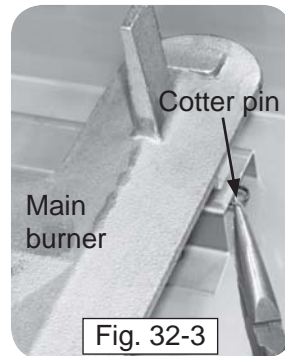

Fig. 32-3
3. Remove the cotter pin from the left or right rear burner anchoring peg by pulling it straight out of the cotter pin hole using fingers or needle-nose pliers (Fig. 32-3).